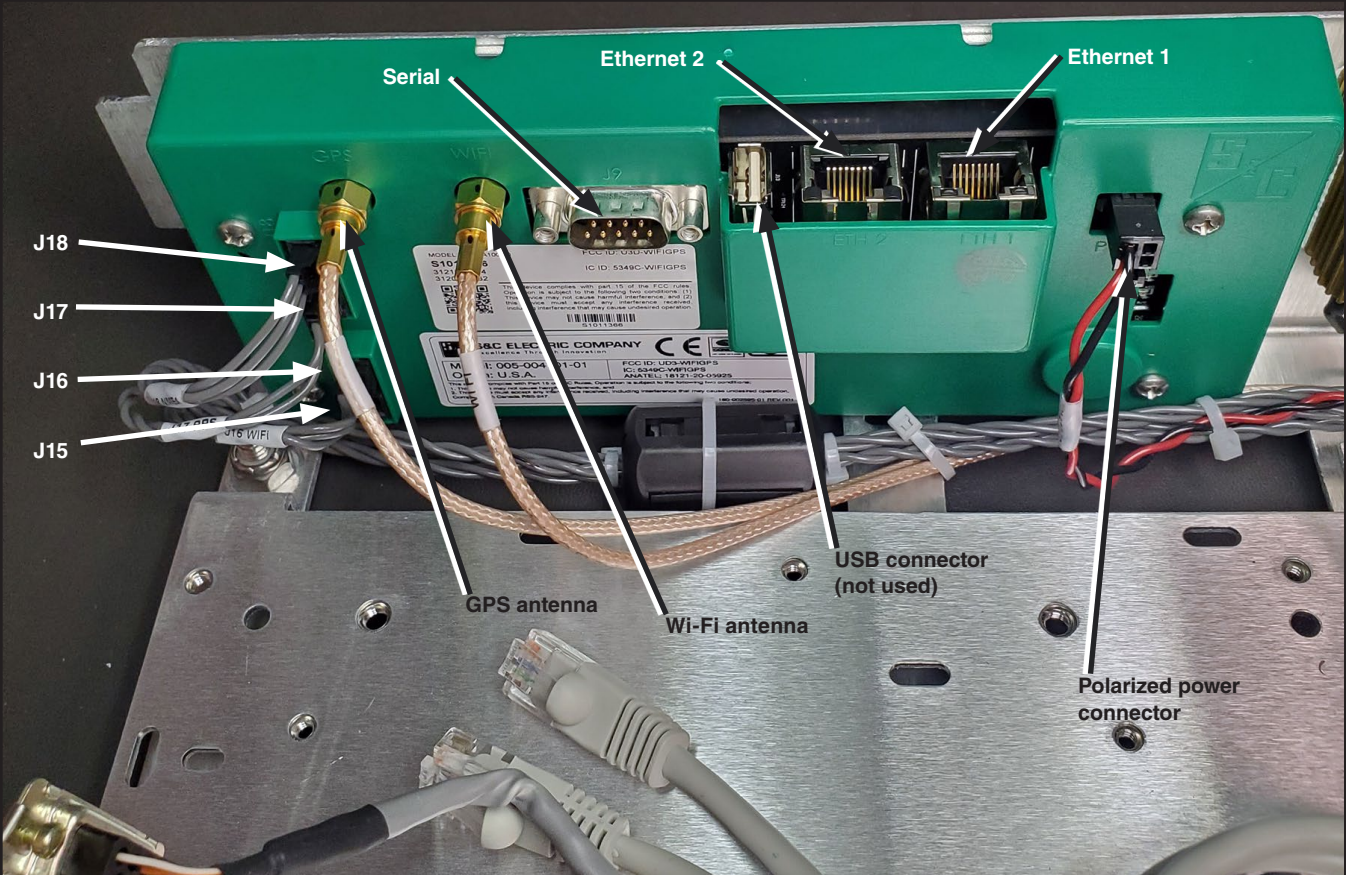

Figure 14. The R3 Wi-Fi/GPS module connections, with no communication device installed.
- STEP 6.** Attach cables to the Wi-Fi/GPS module. See Figure 14.
- STEP 1.** At the communication device, unplug the RJ45 cable that runs between the communication device and the control module. See Figure 14 on page 11.